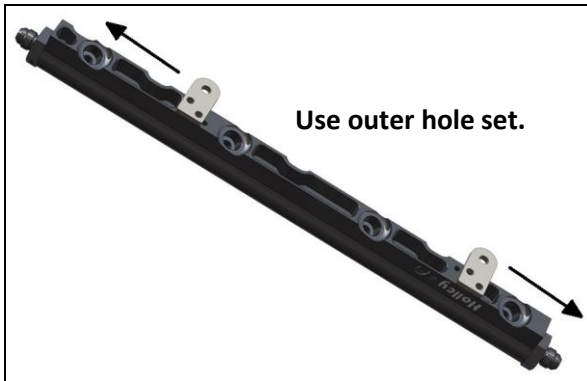

Figure 4 - Bracket placement
- Use brackets 49R3142 for LS2, LS3, L76 & L99 applications (**Figure 4** bracket placement)
When using optional kit P/N 534-212 to allow the upgrade to tall performance injectors (use **Figure 4** bracket placement for both):